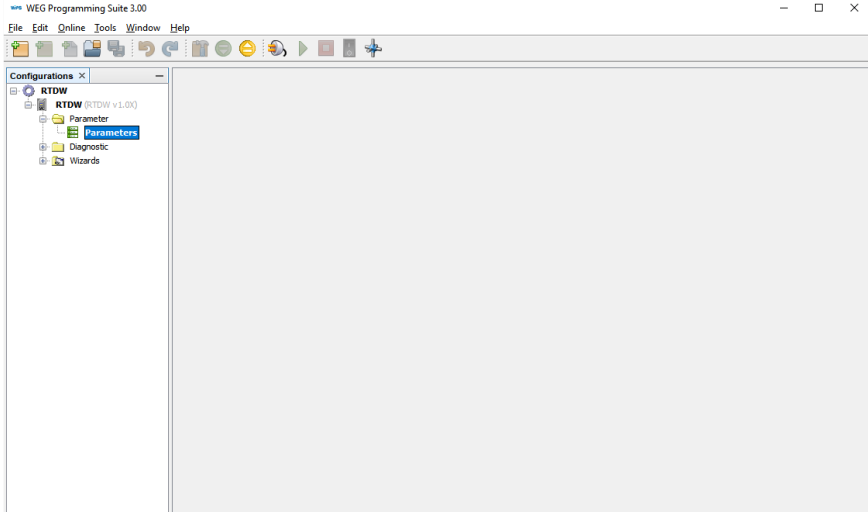

Figure 6.41: Available settings
- In the "Settings" tab on the left side of the screen, click and open the "Parameters" folder as shown in Figure 6.41 on page 6-48.